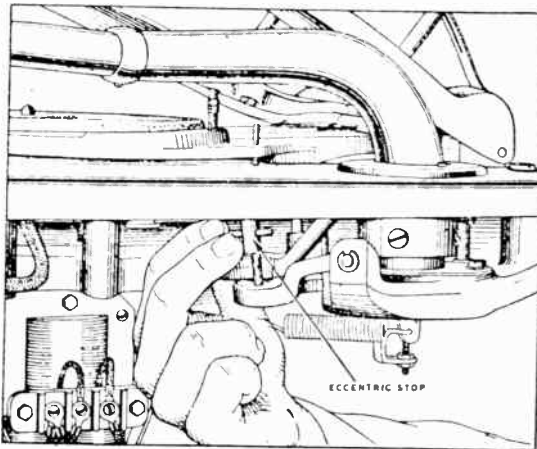

Fig. 13 - Adjusting 12" Eccentric Stop
- b. With a rod or nail, turn the eccentric adjustment as shown in Fig. 13.
- d. If the needle does not fall at the proper position on a 10" record after making the above adjustment, refer to Fig. 13.